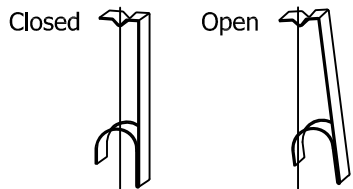
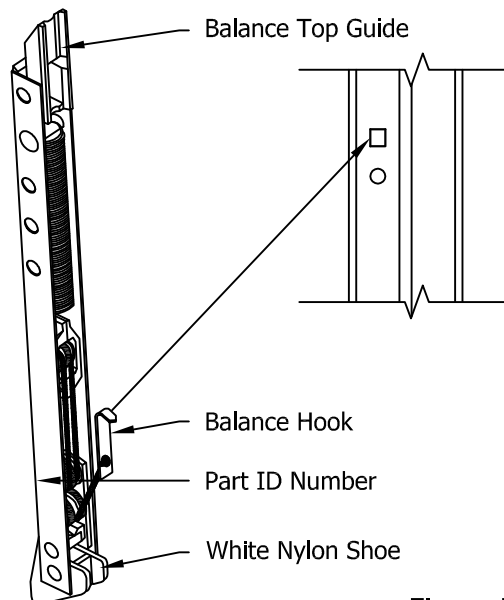

Figure 4A
Figure 5A
(Figure 5A) Lower the sash about halfway down, and then up a few inches to make sure the sash has been properly positioned on the balancers and that each balance has engaged the cams at each upper sash corner. Close the sash balance take-out clips at the top of track "#1". (Figure 4A)
7. Close the take-out clips at the top of track "#2". (Figure 4A)
1. Hold the balance at a 45° angle. Pull out the balance hook (Figure 5A) and place it into the square punch hole in the jamb, near the center of the frame. Making sure the hook is fully seated in the square hole.
1. Open the sash removal balance clips at each side of the inside track near the top using your fingernail or a small thin tool. (Figure 4A) When Opened the take-out clips engage the top of the balance and disengage the balance from the cams at the top of the sash, locking the balance to the frame between the clip and the cord hook.
7. Open the sash removal balance clips at each side of the upper sash track near the top (Figure 4A)
If in need of replacement Balancers, the part number is located on the front side of the balance near the bottom. (Figure 5A)